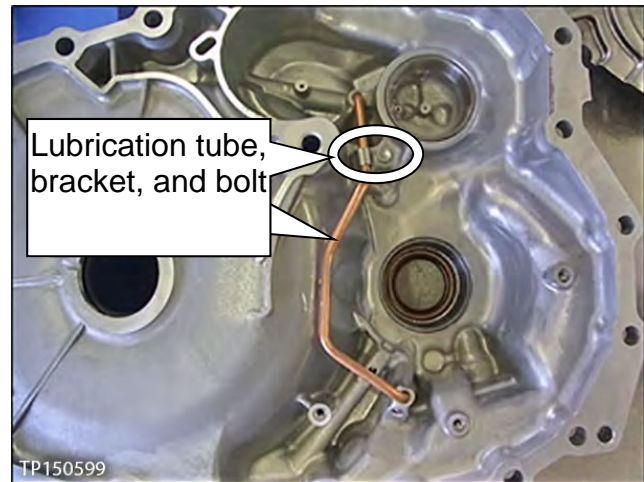

Figure 126
- b. Remove the bolt and then remove the lubrication tube and its bracket (Figure 126).